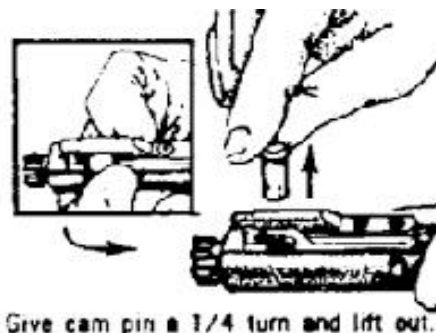

Figure E-15. Removing the bolt cam pin.
m. Remove the bolt cam pin by turning it one-quarter turn and lifting it out (figure E-15).